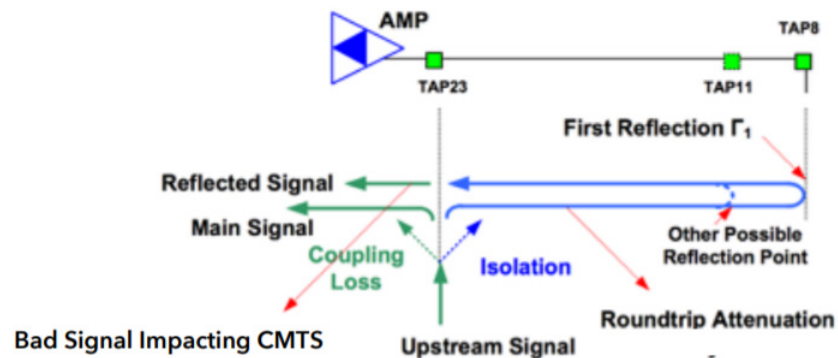
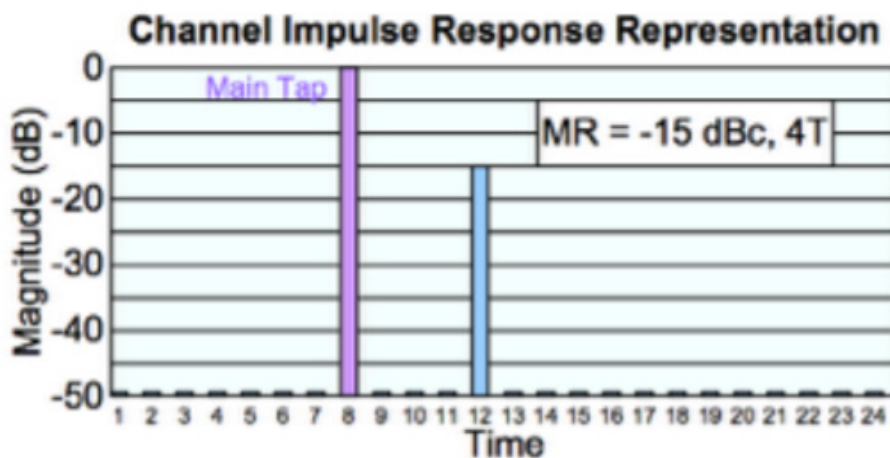

Figure 1: Reflected Cable Modem Signal (Source: CableLabs)
Figure 2: Pre-EQ Taps for Modem with Impairment in Figure 1
As the reflected signal propagates on the downstream it will eventually hit another active or passive device that will not pass upstream signals on the downstream. This will then reflect the original reflected signal back towards the CMTS in the direction it was originally meant to go. See Figure 1 for an illustration of how this works in theory.
Analyzing figure 1 we see that physical Tap 23 is the source of the impairment. Some of the “main signal” is able to pass through physical Tap 23, however some signal is reflected by Tap 23 and reverses direction on the coax, now heading in the downstream direction. When it hits physical Tap 8 the reflected signal is prevented from going any further downstream because Tap 8 is assumed to have electronics inside not allowing upstream signals to travel on the downstream (often this may be an active device such as an RF amplifier).
The blue line shows the round trip distance, which is twice the span of the coaxial cable. The corresponding equalizer response for the Figure 1 is shown in figure 2 below:
Figure 2 is an idealized tap response that shows one reflection at pre-eq tap 12. This must not be confused with physical Tap 23 and physical Tap 8, which are mainline passive devices in figure 1. The pre-equalizer taps are representations of digital signal processing elements.
Since pre-eq tap 12 is elevated we can estimate the distance to the impairment as four (4) taps after the main pre-eq tap (tap 8) as shown on the chart in figure 2. If the upstream DOCSIS channel is 3.2 MHz then each pre-eq tap represents approximately 170 feet, while if the upstream channel is 6.4 MHz each pre-eq tap represents approximately 85 feet.
Note: it is important to understand the difference between a 'physical tap' as in Tap 23 or Tap 8 shown in figure 1, which are used to drop coaxial cables to subscribers' homes, and digital signal processing taps also called equalizer taps as shown in figure 2.
Notice that the vTDR not only reports the impairment distance, but also indicates if the impairment is an 'open' or a 'short'. First consider the example in figure 1. The vTDR is telling us that distance from physical Tap 8 to physical Tap 23 (the impairment) is 777 ft. Next it is telling us that the source of the impairment is an 'Open'. What does an Open condition mean? See the tip chart on the left.